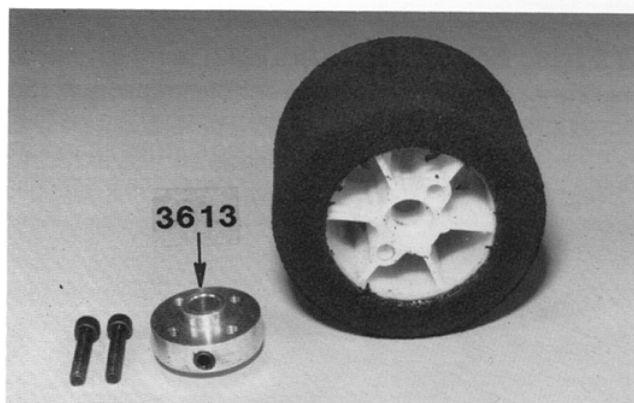

Fig. 70
□ **Figs. 70 & 71**—Install a set screw into the #3613 wheel hub and then install the wheel hub to the inside of the left hand wheel, as shown.